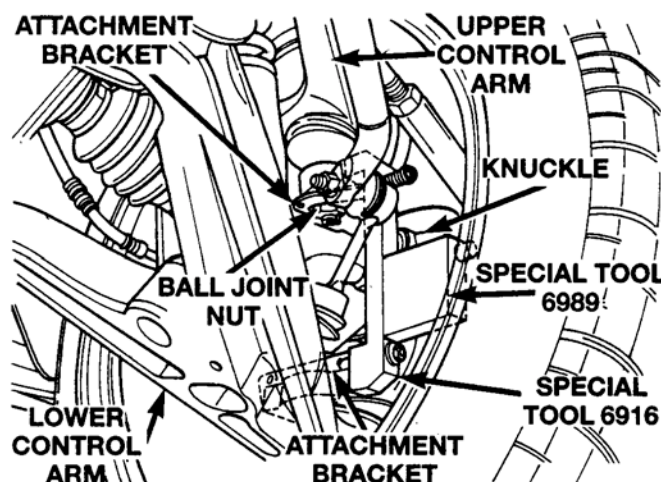

Figure 20 – Right Side Shown
7. Once the inclinometers are attached to the rear Caster Angle Fixtures, they can be mounted on the rear knuckle caster angle pads as shown in Figures 20.